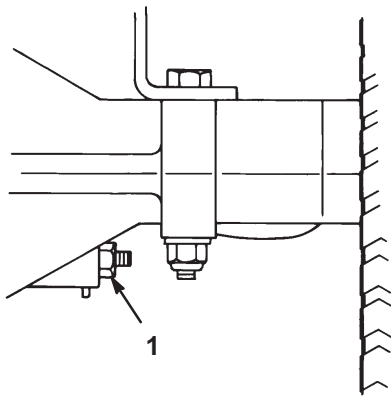

Figure 21
The brake is on the right side of the rear axle, inside the rear tire (Fig. 21). If the brake does not hold securely or stopping power is insufficient, an adjustment is required.
2. To increase braking resistance, tighten the brake adjusting nut (Fig. 21) 1/8 turn clockwise; then check the brake again. Repeat this step until the brake is set properly.